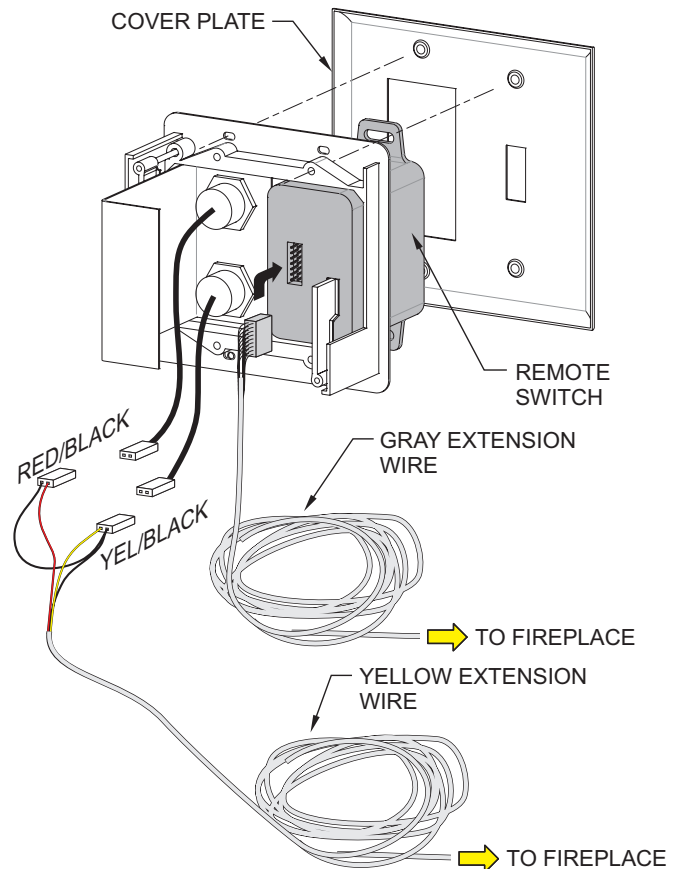

Figure 31
9. Route the yellow LED wire harness, grey remote receiver harness, and red/black battery backup harness through the bushings to the wall. Mount controls and connect. (See Figure 31)